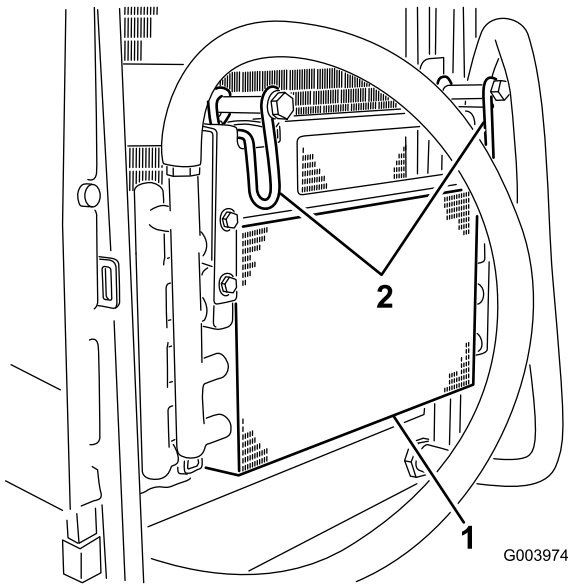

Figure 64
5. Pivot the latches inward to release the oil cooler (Figure 64).